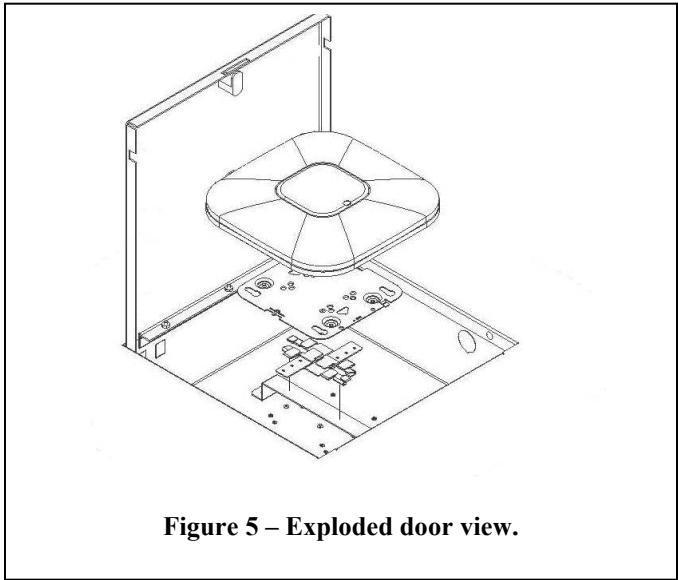

Figure 5 – Exploded door view.
Step 5 –Unlock and open the door. Use the manufacturers T-Bar mount clip to attach the access point to the T-Bar Section on the mounting plate. An additional mounting plate provided by the manufacturer of the access point may be needed to attach the access point (Figure 5). *Data cable(s) may need to be plugged in to the access point prior to attaching to the mount. Cisco access points use Cisco AIR-AP-BRACKET-2 for 2600/3600 series access points and AIR-AP-BRACKET-1 for 1140/3500 series.*